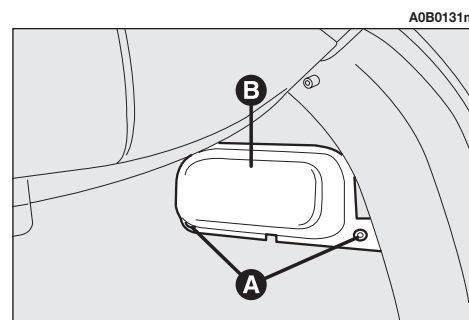

fig. 51
– Slacken the two fastening nuts (**A**-**fig. 51**) and remove the protective cover (**B**-**fig. 51**).
– Refit the protective cover (**B-fig. 51**) fastening with nuts (**A-fig. 51**).